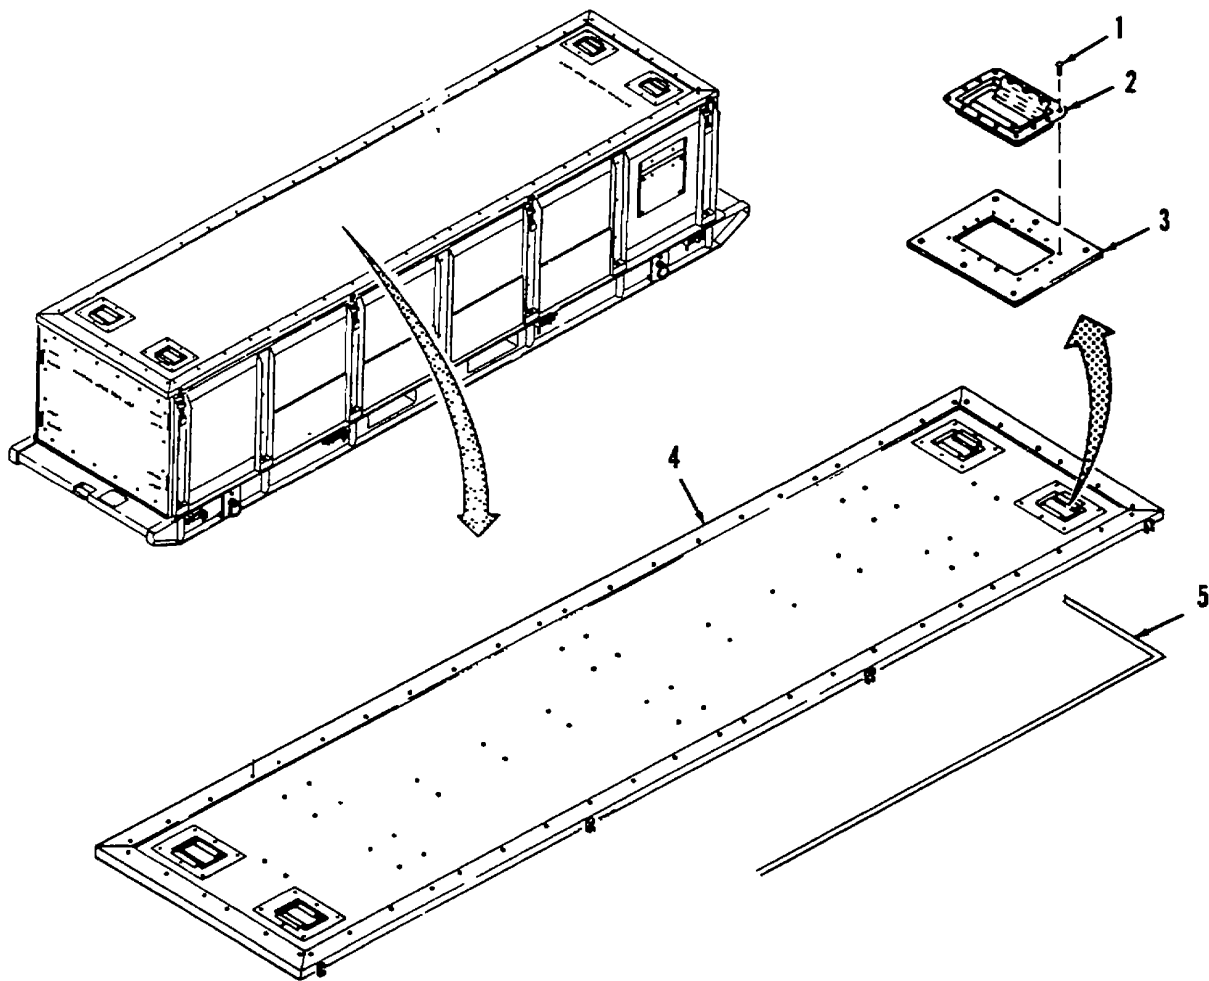

Figure 4-1. Top Cover Assembly Repair.
a. Disassembly. (Refer to Figure 4-1.)
- (1) Using a drill bit slightly smaller than the rivet (1) diameter, drill out fourteen rivets (1).
- (2) Remove handle assembly (2) from handle mounting plate (3).
- (3) Repeat for steps (1) and (2) other three handle assemblies as required.
- (4) Remove gasket material (5), if defective. Discard gasket material.